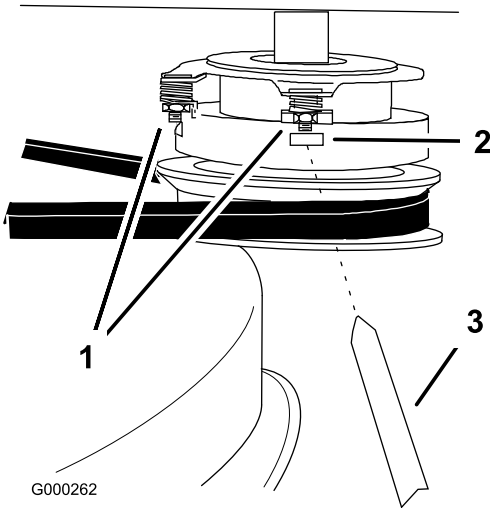

Figure 48
1. To adjust the clutch, tighten or loosen the lock nuts on the flange studs (Figure 48).
2. Check adjustment by inserting a feeler gauge through the slots next to the studs (Figure 48).